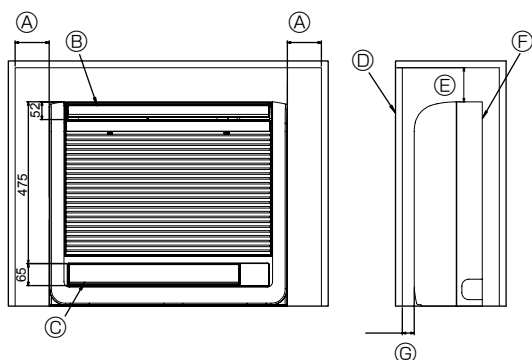

Fig. 6-1
6.1. Embedding the indoor unit in a wall (Fig. 6-1)